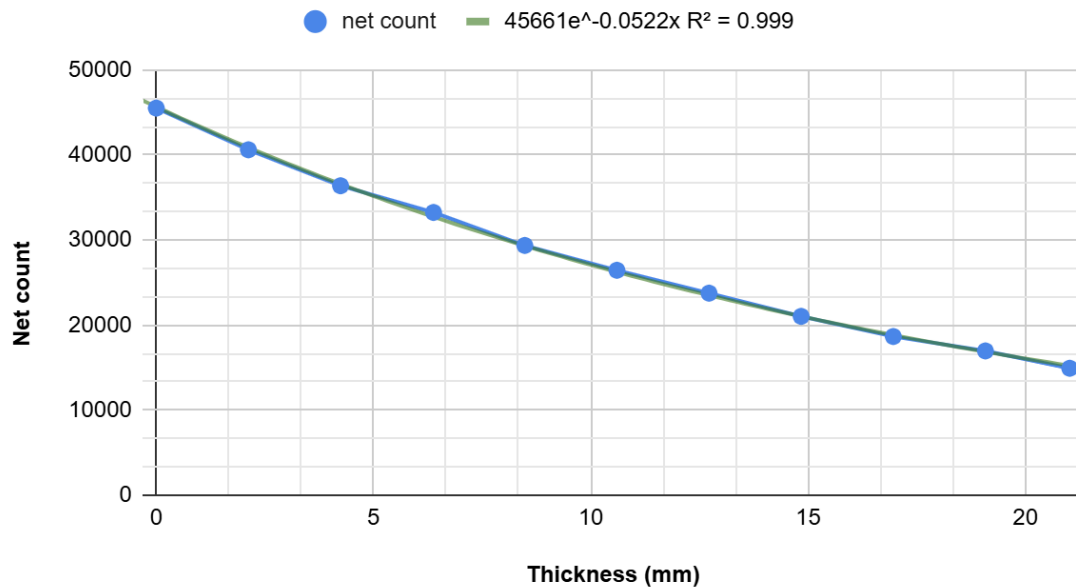

Fig. 22 Graph showing variation of counts with Copper absorber thickness
- Plot the Net Counts versus Absorber thickness in 'mm' as shown in Fig. 22 and determine the Half Value Thickness or Half Value Layer (HVL) in terms of thickness (mm) from the Curve.